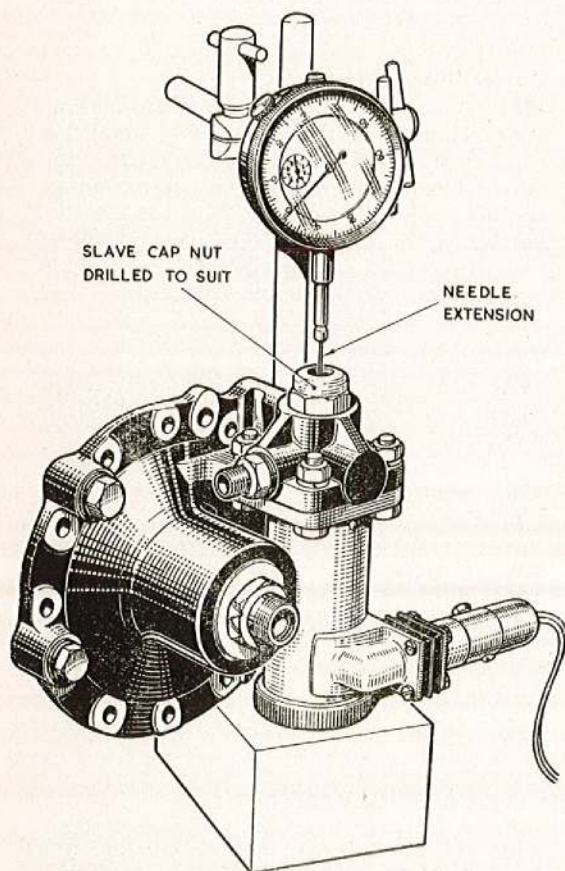

Fig. 34. Checking the solenoid air gap
(1) Set the built-up assembly on the block as shown in fig. 34.
(2) Lower the needle extension through the slave cap nut and orifice to contact the sealing face of the valve plate and adjust the dial to zero.
(3) Connect the plug to the 16 volt supply, energise the coil and note the dial reading, e.g. 0.007 in. By subtracting this dimension from that obtained in para. 196, the air gap will be defined thus, $0.032 - 0.007 = 0.025$ in.
(4) The gap must be 0.010 in. to 0.015 in. Adjust by shims beneath the orifice. When satisfactory remove the slave cap nut, insert the strainer, distance piece and circlip and screw on the normal cap nut and sealing ring.